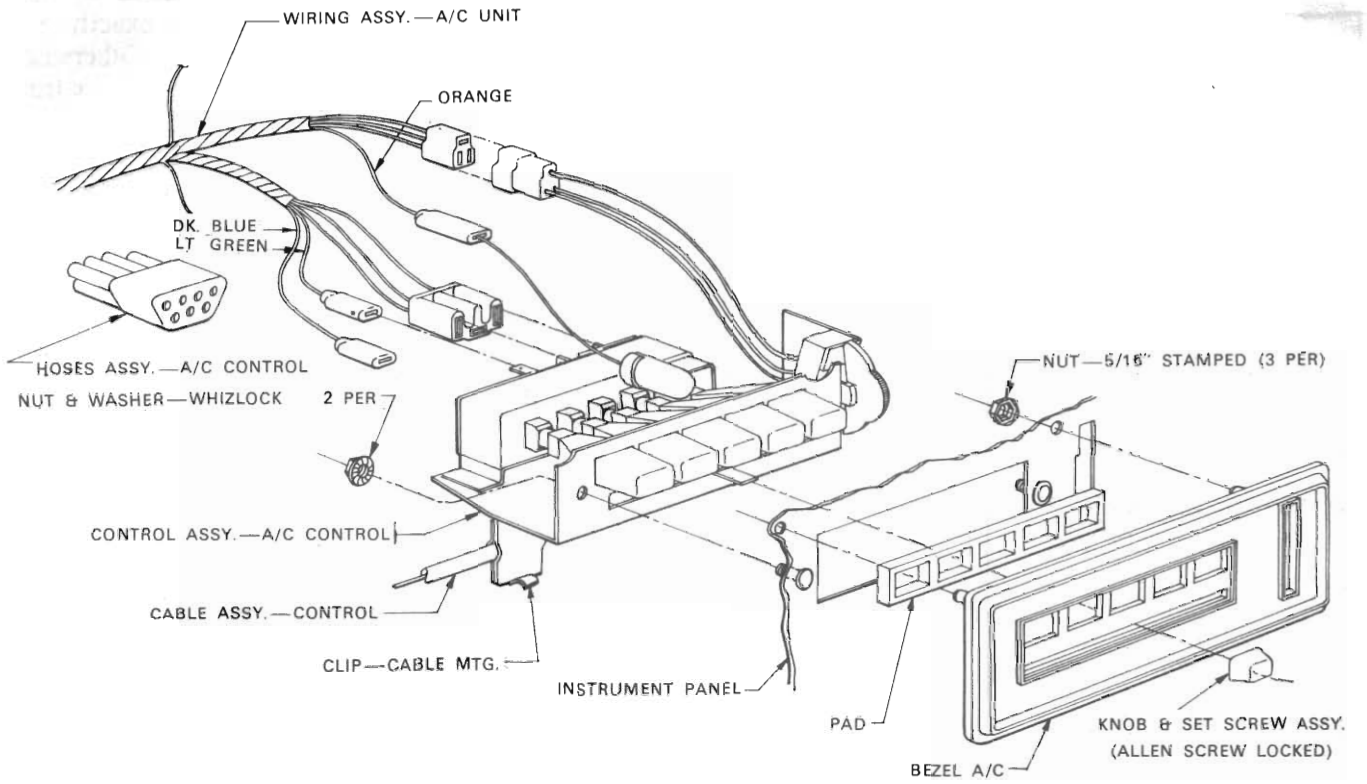

Fig. 9 - Air conditioner control panel (disassembled view)
(1) Remove the cool air distribution duct by removing two 7/16" nuts, washers and spacers which secure the duct to the panel.
(2) Remove the seven electrical lead plugs from the unit.
(3) Disconnect the control cable clip and remove cable at heater end.
(4) Remove the control lever knob using a small "Allen" wrench.
(5) Remove the two retaining nuts and washers which secure the control unit to the panel and carefully remove the control from the panel (refer Fig. 9). Replace the unit by reversing the foregoing procedures and readjust cables as described previously.